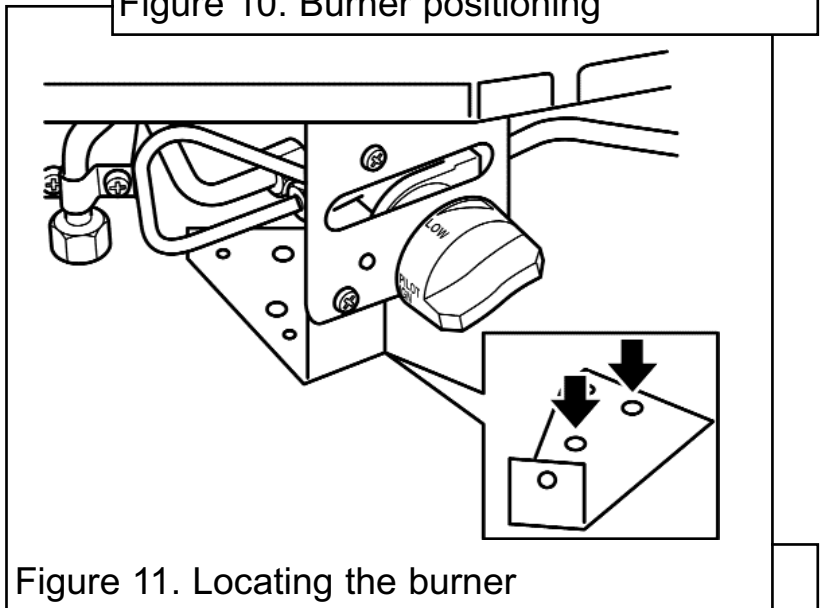

Figure 11. Locating the burner
- Mark onto the floor, the position of the two fixing holes in the front fixing bracket (See figure 11).